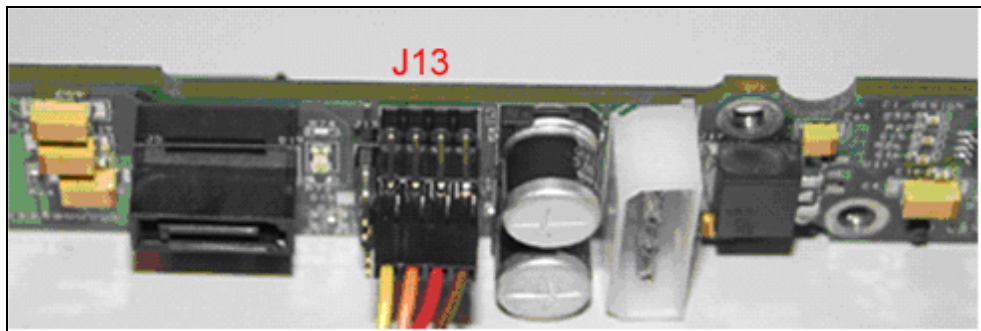

Figure 2 – Cable Installation on backplane
- a. See **Figure 2** for installation on backplane.